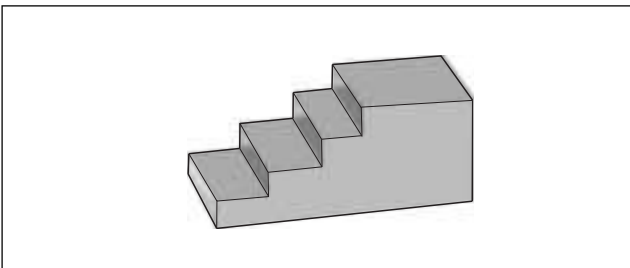

Figure 6-17. Primary Drive Locking Tool (Part No. HD-41214)
- See Figure 6-17. Obtain the PRIMARY DRIVE LOCKING TOOL (HD-41214) and proceed as follows: